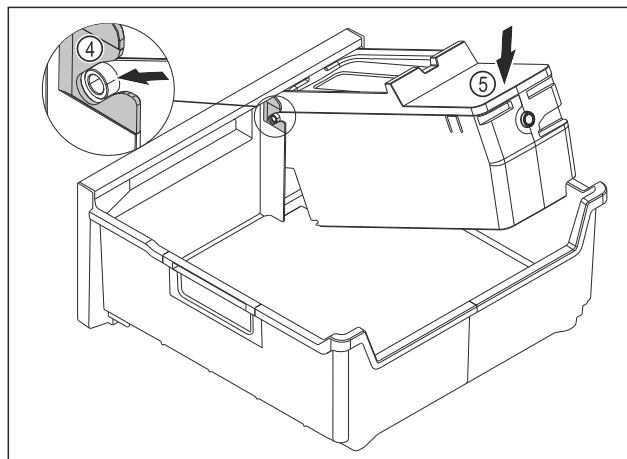

Fig. 82
- ▶ Installing the EasyTwist-Ice body: Push the axes for the EasyTwist-Ice body into the guides Fig. 82 (4).
- ▶ Press the EasyTwist-Ice body Fig. 82 (5) down at the back.